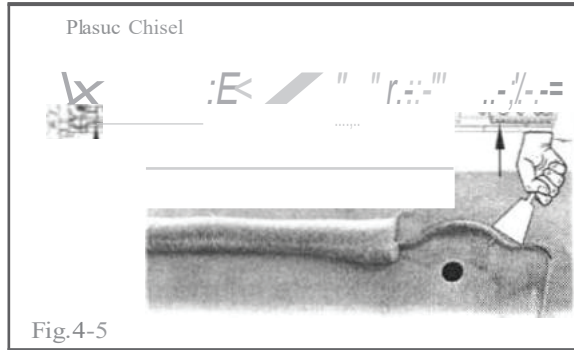

Fig.4-5
- (h) Check for Weld sealant at the front and rear mounting locations. If there is sealant in proximity of the mounting holes, use a plastic chisel to scrape it off as shown in (Fig. 4-5).